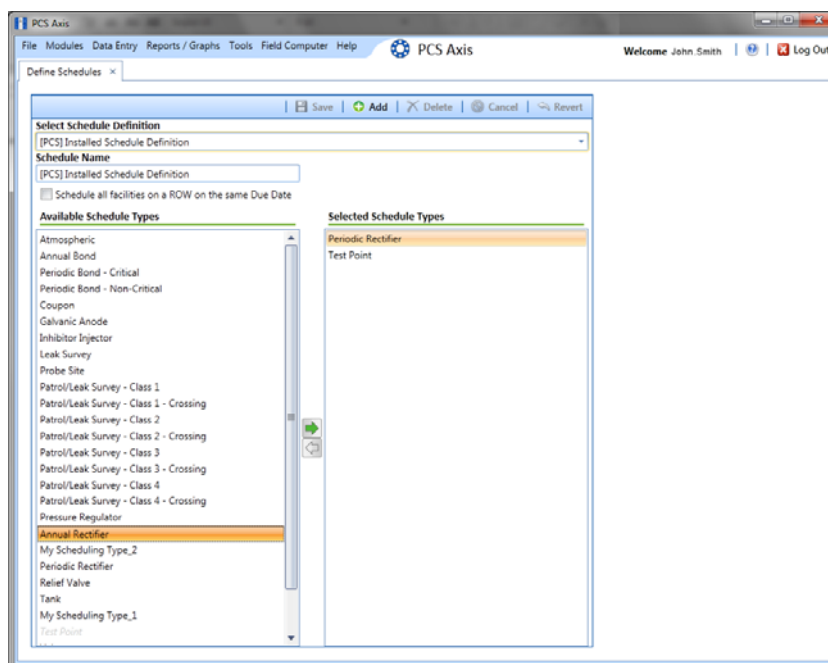

Figure 8-10. Adding a Schedule Type
- b Click the top arrow button  to move the schedule type(s) to the *Selected Schedule Types* pane (Figure 8-10). Click  **Save**.
- a Select a schedule type listed in the *Selected Schedule Types* pane (Figure 8-10). To select multiple schedule types, press the **Ctrl** key on the computer keyboard while selecting each schedule type.